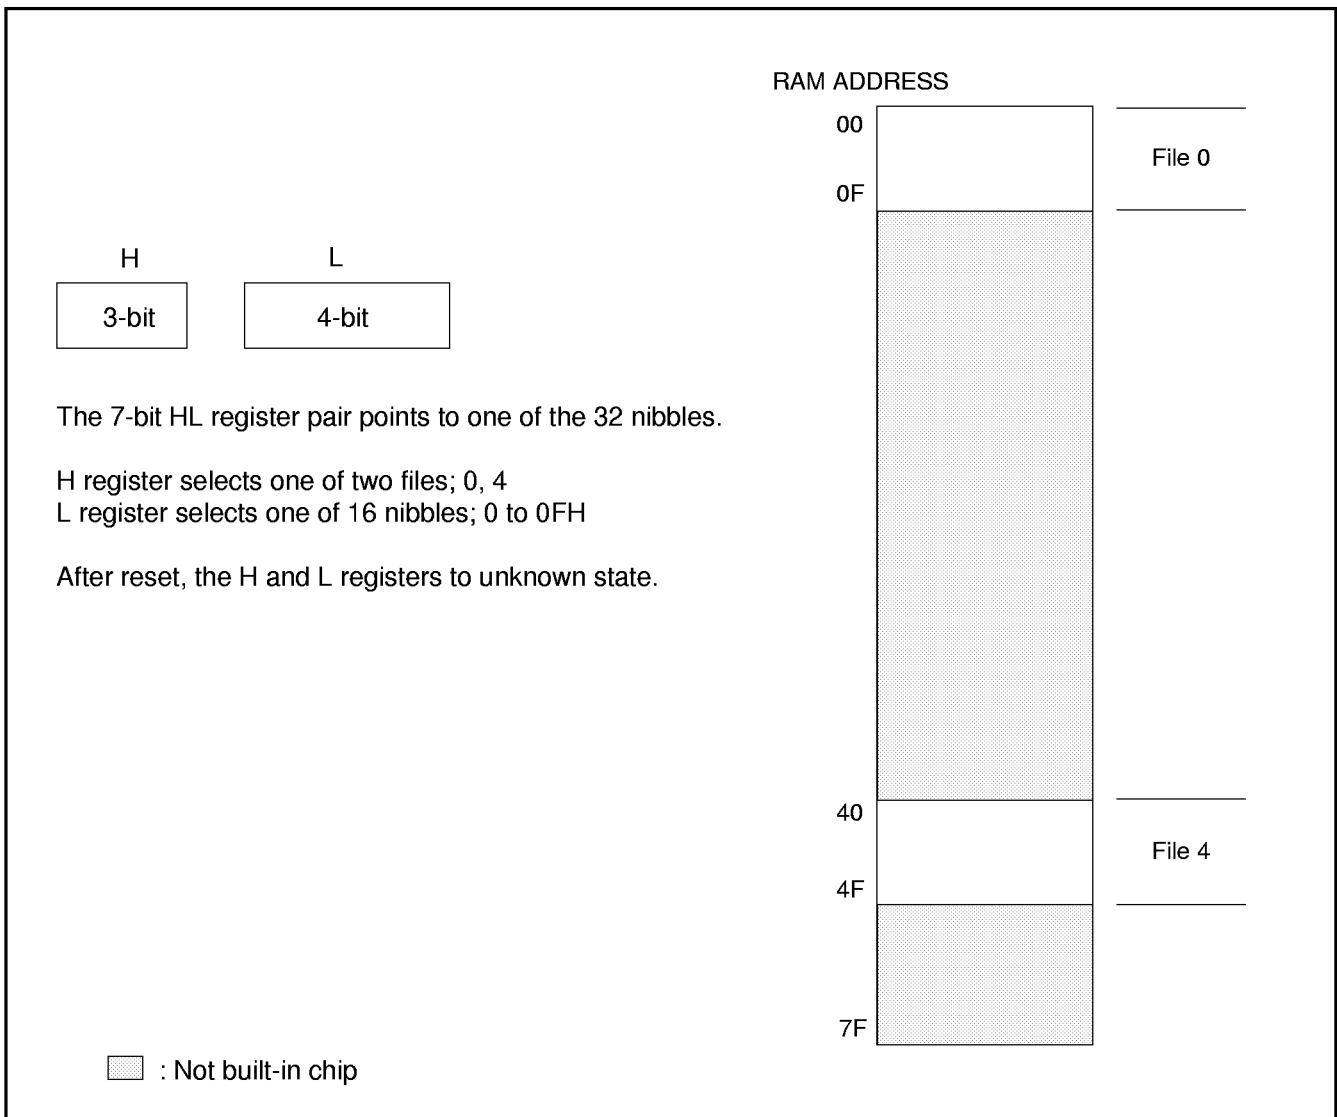

Figure 2-4. KS51845 Data Memory Map
The KS51845's data memory consists of a 32-nibble RAM which is organized into two files of 16 nibbles each (see Figure 2-4). RAM addressing is implemented by a 7-bit register, HL. Its upper 3-bit register (H) selects one of two files and its lower 4-bit register (L) selects one of 16 nibbles in the selected file.